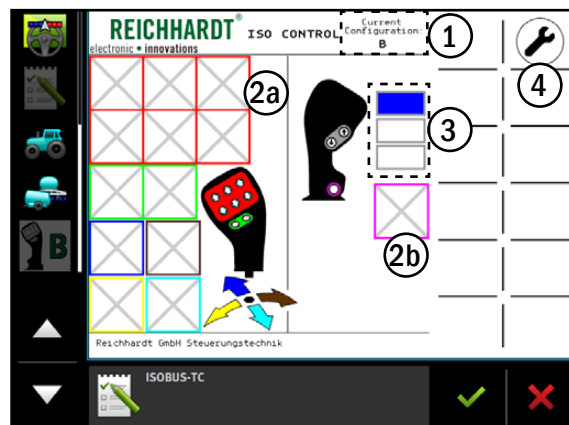

Fig. 23: Reichhardt joystick mask with configuration B
In the Reichhardt mask the current configuration (1) of the ISO CONTROL joystick, as well as the possible function assignments for the individual buttons/axes (2a and 2b), are displayed in an overview (see Fig. 23).
The joystick can be assigned different functions for the individual inputs (buttons/axes) on three different levels. These levels are shown on the right side of the screen (see Fig. 23 – 3).
The wrench icon (see Fig. 23 – 4) can be used to change the mode for level switching (see Chapter 6.6) or select a different configuration for the joystick (see Chapter 6.7).